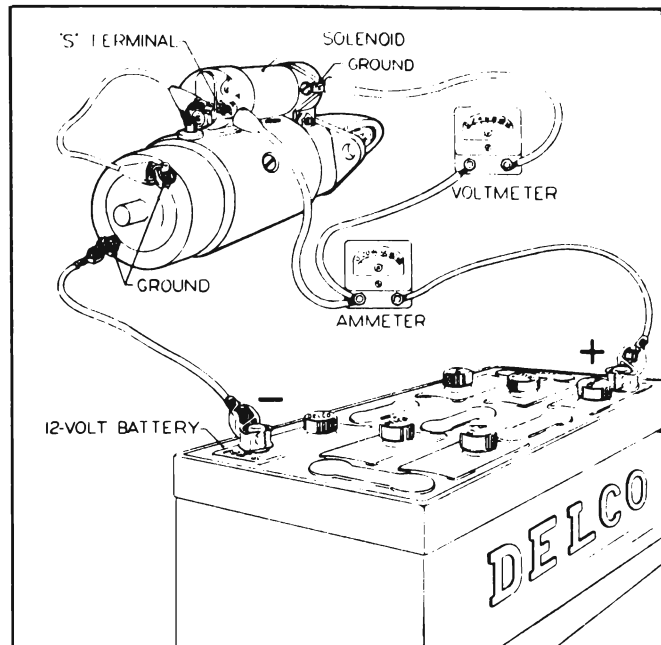

Figure 10-24—Amperage Test of Solenoid
1. Remove screw from solenoid motor terminal and bend field leads slightly until clear of terminal. Then ground solenoid motor terminal with a heavy jumper wire. See Figure 10-24.